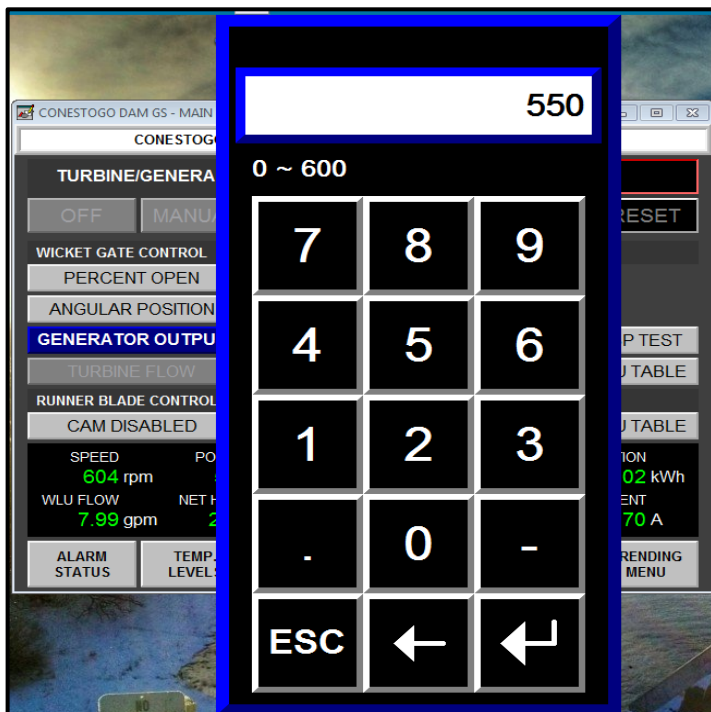

Fig 3
1. updating the sheet again by clicking **“New Operational Report”** as seen on page 7, figure 3.
- This will open a window with a number pad where you will use your cursor to adjust the output values (Fig 3).